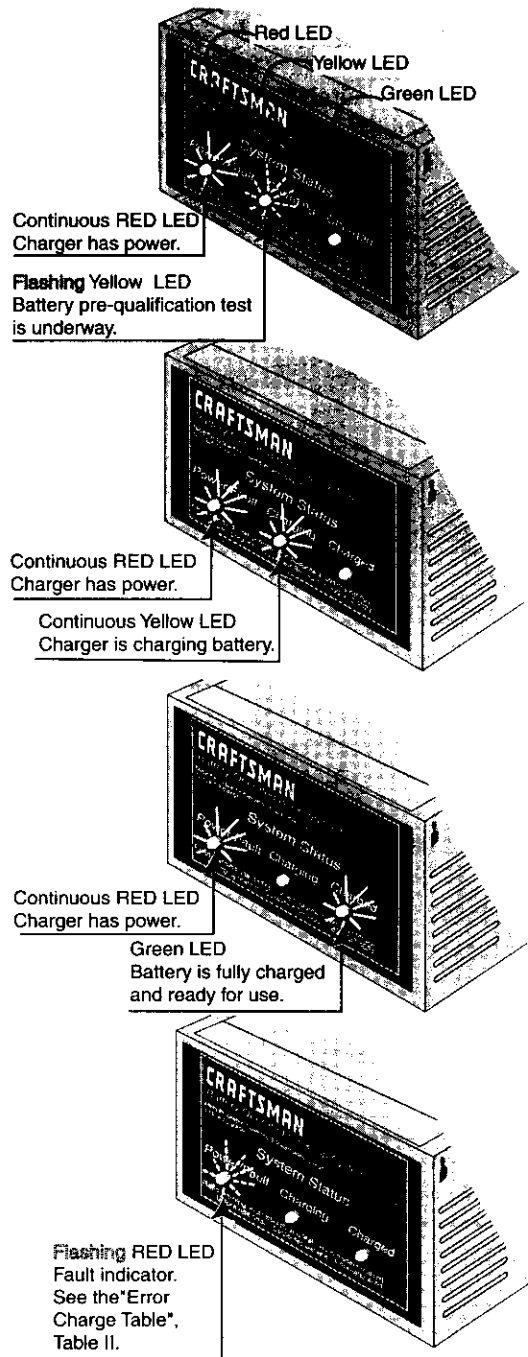

Figure 6 - LED Panel
4. With the charger properly connected and plugged in, the panel on the front of the charger will show one of the following conditions (See Figure 6).
NOTICE: All LED's will illuminate once the AC power has been applied. They will not light up if the charger is not plugged in. The RED LED will remain on continuously to indicate power to the charger. See Figure 6.